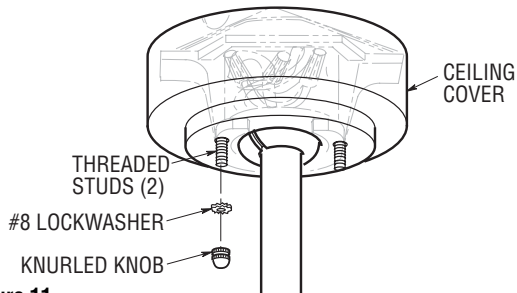

Figure 11
- 3. Screw the two 1-1/4" threaded studs (supplied) into the tapped holes in the hanger bracket (Figure 11).
- 4. Lift the ceiling cover up to the threaded studs and turn until studs protrude through the holes in the ceiling cover (Figure 11).
- 5. Secure the ceiling cover in place by sliding lockwashers over the threaded studs and installing the two knurled knobs (supplied) (Figure 11). Tighten the knurled knobs securely until the ceiling cover fits snugly against the ceiling. Your fan is now wired to be turned on and off from the wall switch.